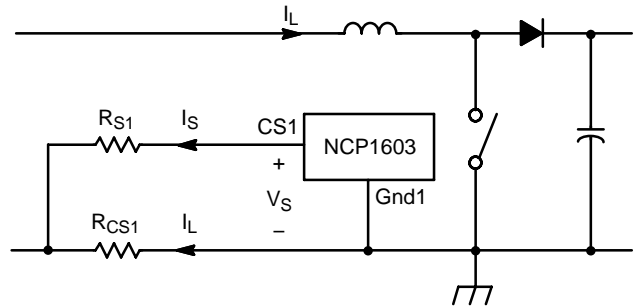

Figure 64. Current Sense in PFC Section
The PFC section senses the inductor current  $I_L$  by the current sense scheme in Figure 64. This scheme has the advantages of: (1) the inrush current limitation by the resistor,  $R_{\text{CS1}}$ , and (2) the overcurrent protection and zero current detection implemented in the same pin.
Inductor current  $I_L$  passes through  $R_{\text{CS1}}$  and creates a negative voltage. This voltage is measured by a current  $I_S$  flowing out of the CS1 pin (Pin 11). CS1 pin has an offset voltage  $V_S$ . This offset voltage is studied in the setting of zero inductor current  $I_{L(\text{ZCD})}$  and the maximum inductor current  $I_{L(\text{OCP})}$  (i.e., overcurrent protection threshold). A typical variation of offset voltage  $V_S$  versus sense current  $I_S$  is shown in Figure 35. Based on Figure 64, Equation 20 is derived.